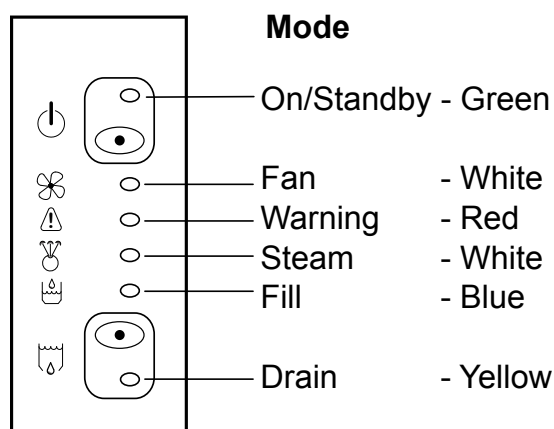

Fig. 5a
5.1 The electronic board located inside the unit controls all the humidifier functions. The front panel is equipped with pilot lights indicating the status of the humidifier. Please see Fig.5a. Please refer to Article 5.2 for the description of the functions.